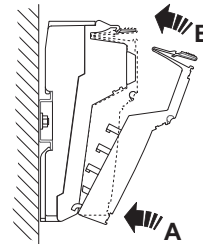

Figure 9-17 Snapping on a connector
- Plug the connectors into the base (Figure 9-17).